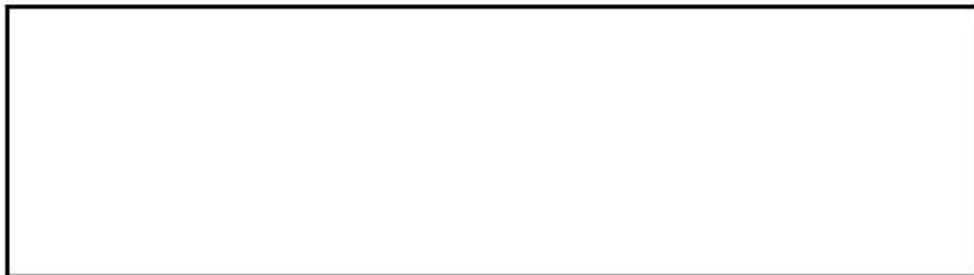

Figure 39
1. The upper computer includes the following files, as shown in Fig.39